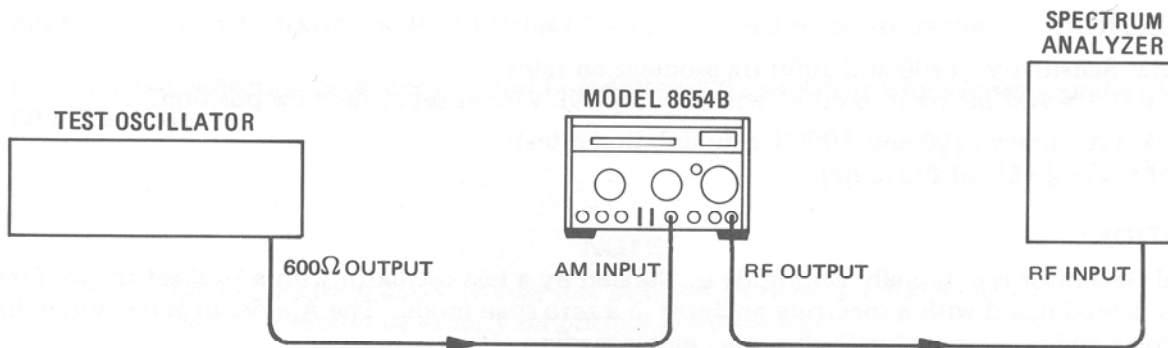

Figure 4-7. AM Bandwidth Test Setup
1. Connect equipment as shown in Figure 4-7 after setting Signal Generator controls as follows: